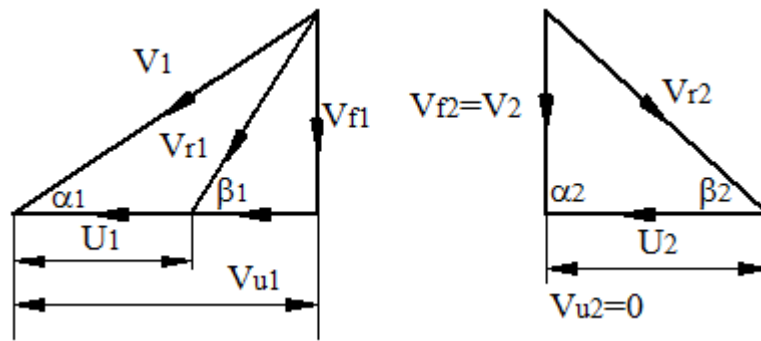

Fig. 3.4 Velocity diagram of generalized turbomachine for maximum utilization
**Answer:** For maximum utilization, the value of  $V_2$  should be the minimum and from the velocity triangle, it is apparent that  $V_2$  is having minimum value when it is axial or radial (i.e.,  $V_2 = V_{f2}$ ). Then the velocity diagram of generalized turbomachine for maximum utilization is as shown in figure 3.4.